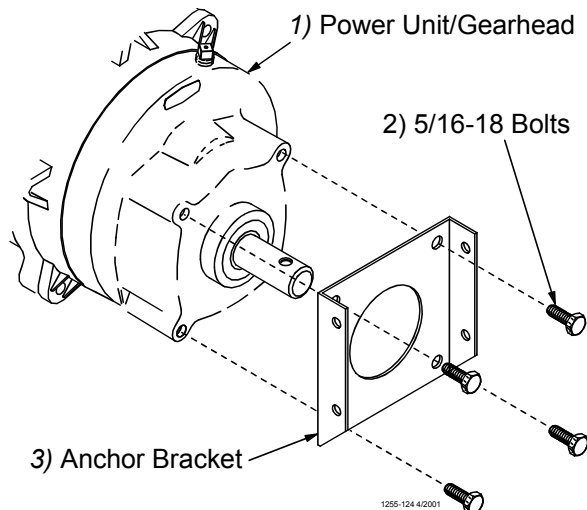

Figure 33. Assemble the Anchor Bracket to the Power Unit/Gearhead
3. Install the Anchor Bracket to the Power Unit/Gearhead, as shown in **Figure 33.**, with the included 5/16-18 Bolts.